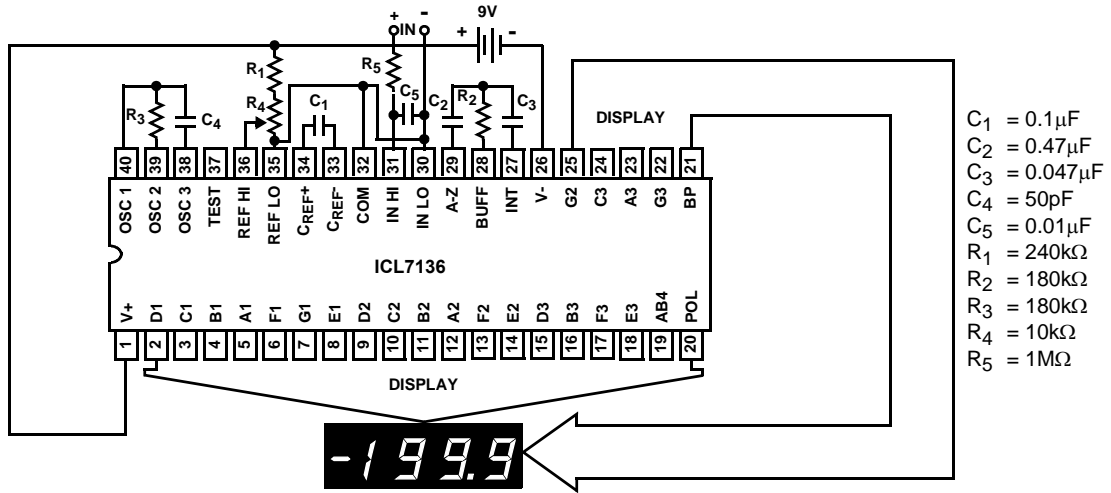

FIGURE 1. ICL7136 TEST CIRCUIT AND TYPICAL APPLICATION WITH LCD DISPLAY COMPONENTS SELECTED FOR 200mV FULL SCALE
3. Unless otherwise noted, specifications apply to the ICL7136 at $T_A = 25^\circ C$, $f_{CLOCK} = 48kHz$. ICL7136 is tested in the circuit of Figure 1.